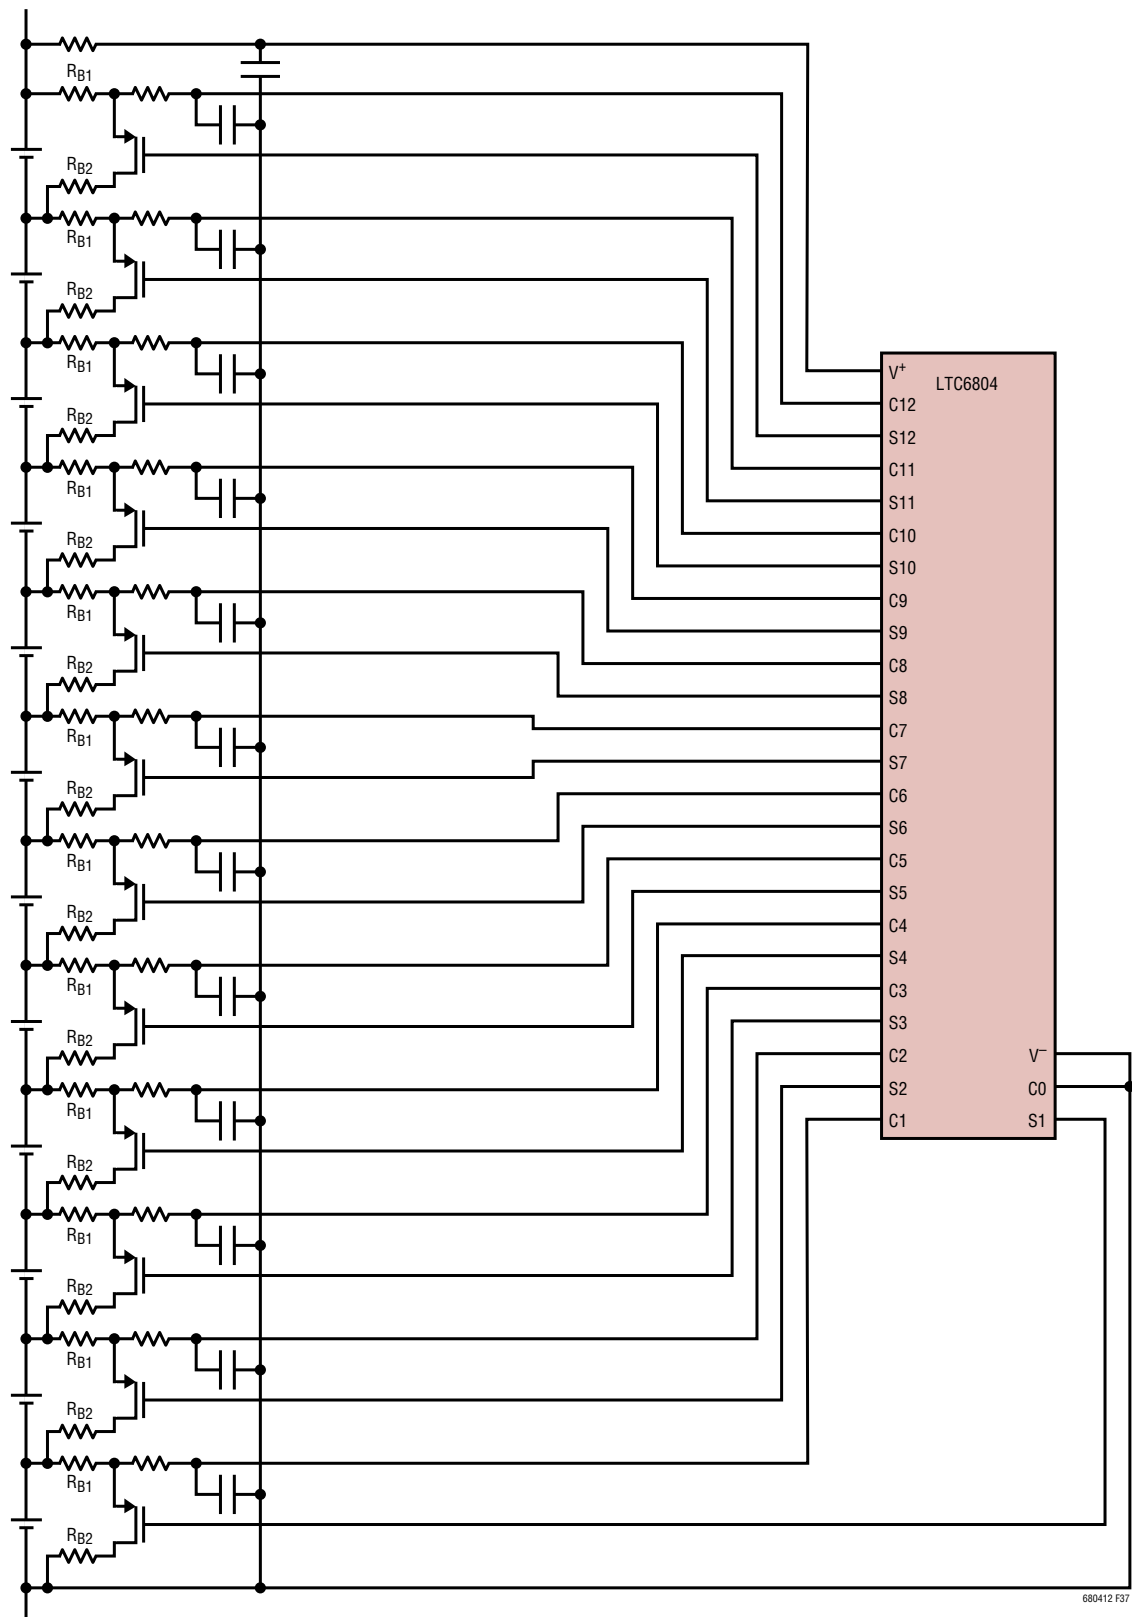

Figure 37. Balancing Self Test Circuit
The functionality of the discharge circuitry is best verified by cell measurements. Figure 37 shows an example using the LTC6804 battery monitor IC. The resistor between the battery and the source of the discharge MOSFET causes cell voltage measurements to decrease. The amount of measurement change depends on the resistor values and the MOSFET on resistance.
The following algorithm could be used in conjunction with Figure 37:
18. Compare new readings with old readings. Each cell voltage reading should have decreased by a fixed percentage set by  $R_{B1}$  and  $R_{B2}$  (Figure 37). The exact amount of decrease depends on the resistor values and MOSFET characteristics.